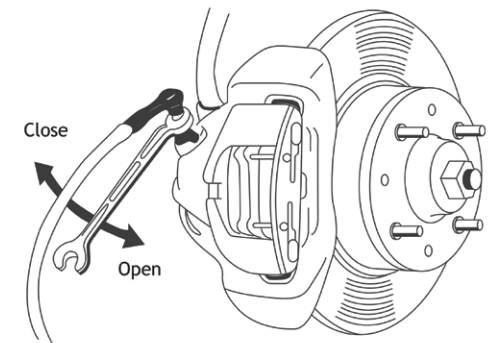

Fig. 3
7. Starting from the bleed nipple that is furthest away from the master cylinder, attach a bleed tube and place the other end into a suitable container. Loosen the bleed nipple (see fig.3) to allow the old brake fluid to flow into the container. When the fluid is clean and free from air, re-tighten the nipple.